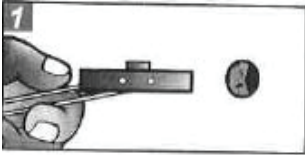

Figure 4.3.1
4.3.1 Drill a 7/16" hole in the cab shell at each panel hole location as shown in Figure 4.3.1. Hold metal channel flat alongside plastic straps and slide channel through pre-drilled hole.